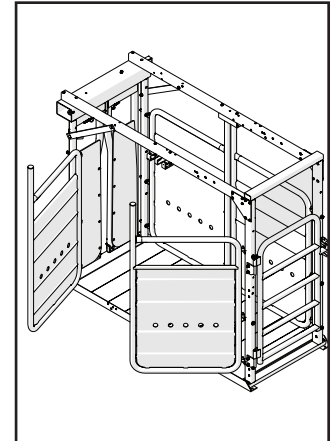

Figure 4: Side gates in use
3. The side gates can also be opened to access the animal from the side (Figure 4).